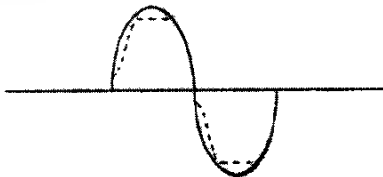

FIGURE 5-3.
2. Turn the level control up until clipping occurs. Clipping must take place above 85 watts (typically in the 95-100 watt range). Refer to Figure 5-3 for output waveform characteristics.
The output must clip before it distorts elsewhere. The dotted line in Figure 5-3 shows typical unacceptable distortion on the leading edges of the waveform.